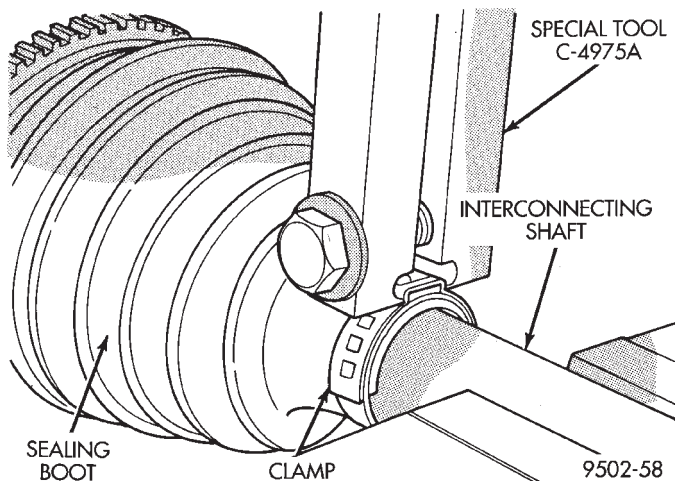
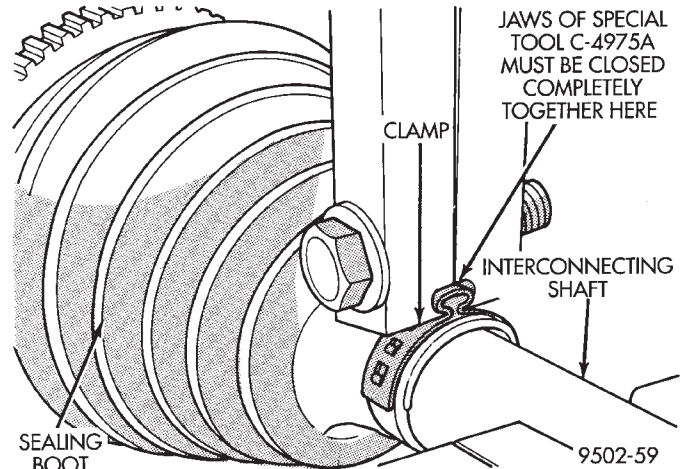

Fig. 34 Crimping Tool Installed on Sealing Boot Clamp
Fig. 35 Sealing Boot Retaining Clamp Installed
(6) Install inner tripod joint seal boot to interconnecting shaft clamp evenly on sealing boot.
(7) Clamp sealing boot onto interconnecting shaft using crimper, Special Tool C-4975-A and the following procedure. Place crimping tool C-4975-A over bridge of clamp (Fig. 34). Tighten nut on crimping tool C-4975-A until jaws on tool are closed completely together, face to face (Fig. 35).